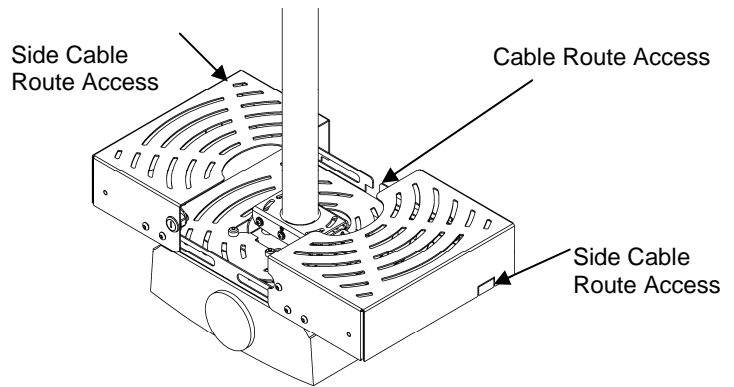

Figure 5. Route Cables
10. Route the cables (Figure 5).